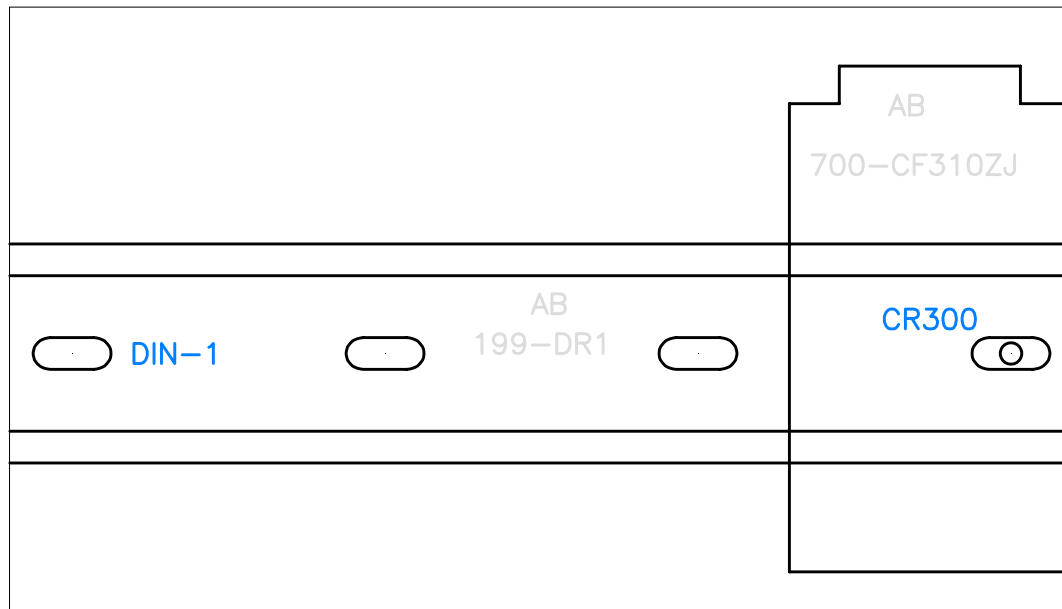

Figure P2-22 DIN-1 attribute moved
2. Select DIN-1 attribute and move it to a new location, as shown in Figure P2-22.